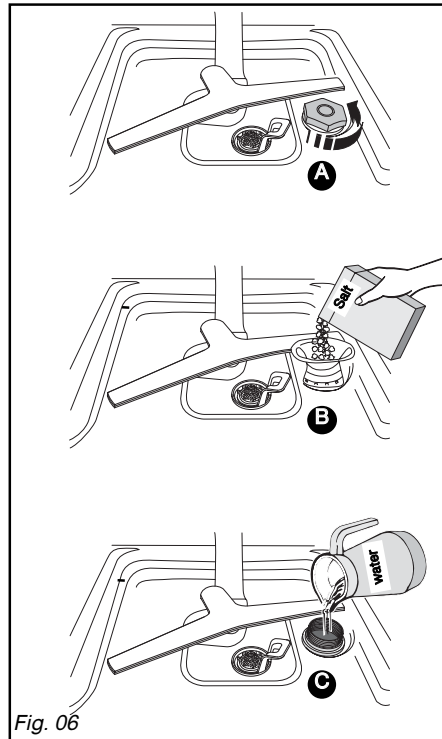

Fig. 06
• **Loading of regenerating salt (Fig 06)**